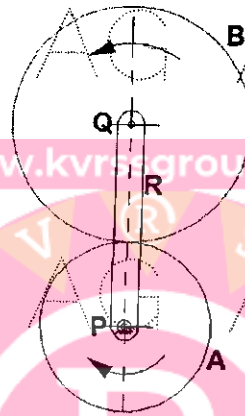

Figure: 3
b) A simple Epicyclic gear train is shown in the figure 3. Deduce, from fundamentals, the expression for velocity ratio of the gear train. [5+5]